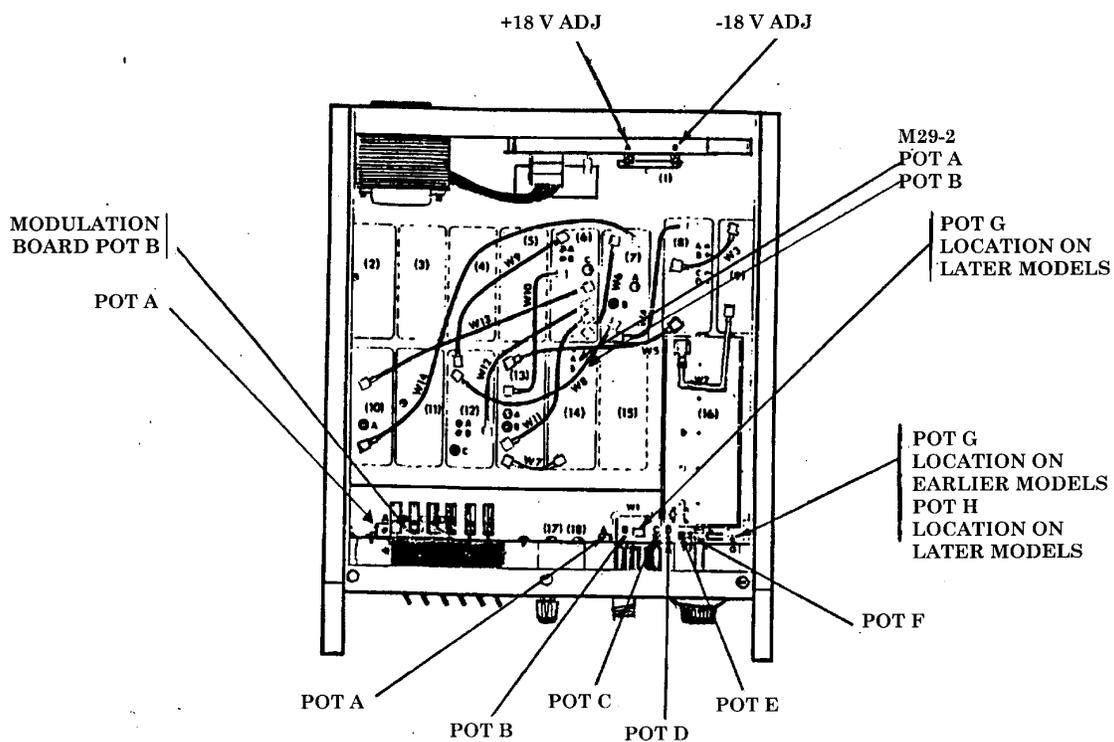

Figure 2. Test instrument - top view.
- (6) Adjust MODULATION BOARD POT A (fig. 2) for a $+5.00 \pm 01$ V dc indication on the digital multimeter (R).
(9) Adjust M29-2 POT B (fig. 2) to produce an indication of 2.000 MHz 100 Hz on frequency counter (R).
(10) Set **MODULATION FM/AM** slide control to full up position and adjust M29-2 POT A (fig. 2) to produce an indication of 2.100 MHz 100 Hz (R) on frequency counter.
(11) Set **MODULATION MODE** switch to **FMx1** and adjust **MODULATION BOARD POT B** on left side of board (fig. 2) to produce an indication of 2.010 MHz 100 Hz on frequency counter (R).
(1) Temporarily disconnect measuring receiver sensor module from TI.
(2) Set **OUTPUT VERNIER** control fully ccw and adjust meter board POT B (fig. 2) until meter needle bisects dot at left end of meter scale (R).
(3) Adjust **OUTPUT VERNIER** control fully cw and adjust meter board POT A (fig. 2) for a +3-dBm **OUTPUT** meter reading (R).
(4) Set **OUTPUT** step attenuator to **+10 dBm**.
(5) Connect measuring receiver sensor module to TI **RF OUTPUT**.
(6) Alternately adjust **OUTPUT VERNIER** control for a **0** and **-7 dBm** reading on TI **OUTPUT** meter while adjusting meter board POT F (fig. 2) for +10 dBm and POT E (fig. 2) for +3 dBm indications on the measuring receiver. Repeat the above until no further adjustments are required (R).
(7) Adjust **OUTPUT** step attenuator to **0 dBm**.
(8) Alternately adjust **OUTPUT VERNIER** control for a **+3** and **-6 dBm** reading on **TI OUTPUT** meter while adjusting meter board POT C (fig. 2) for +3 dBm and POT D for -6 dBm indications on the measuring receiver. Repeat the above until no further adjustments are required (R).